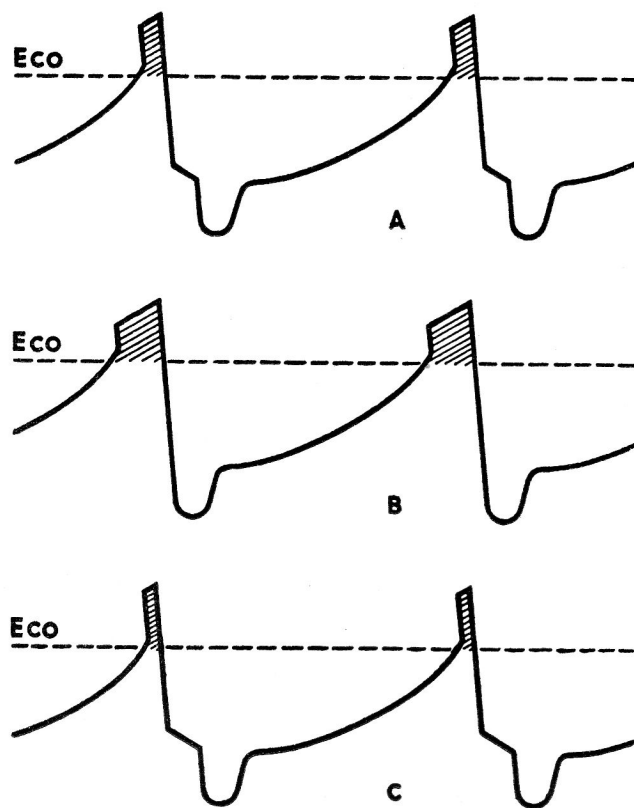

Figure 12
When the control tube draws current, a D.C. voltage is developed across the cathode resistors (item 113) 180,000 ohms, (item 115) 100,000 ohms, and the filter network consisting of (item 189) .02 Mfd., (item 190) .2 Mfd., and (item 112) 8,200 ohms. It should be noted that the 100,000 ohm resistor is also part of the resistance in the grid circuit of the blocking oscillator. The grid of the control tube is negatively biased because of the connection of a 3.3 meg-ohm resistor (item 116) back to the oscillator grid. With the application of the composite waveform, the control tube starts to draw current because the bias has been overcome by the positive portion of the composite wave (shaded portions in Figure 12). This current, flowing through the cathode resistors, develops a voltage across them. "A" in Figure 12 shows
the normally synchronized condition. Now, should the oscillator drift lower in frequency, the synchronizing pulses sitting on top of the composite waveform will appear further down the slope of the saw-tooth as shown at B, Figure 12. The tube will draw current for a longer period of time and a large positive voltage will be developed across the cathode resistors (item 115) and (item 113). Since resistor (item 115) is also in the grid circuit of the blocking oscillator, bias will be reduced and the frequency will be increased. Conversely, should the oscillator drift high in frequency, C, Figure 12, the correction voltage will be reduced and the oscillator frequency will be reduced. The Horizontal Lock Control (item 36) varies the amplitude of the composite waveform and is normally set $\frac{1}{8}$ to $\frac{1}{4}$ turn from right tight. If this trimmer is backed off too far, Horizontal holding will be erratic and the picture will jerk into synchronization. If it is right tight, the holding range will be shortened. Horizontal frequency is roughly set by the Horizontal Frequency Control, an adjustable core in the oscillator transformer. The fine frequency adjustment is made by the Horizontal Hold Control on the front panel.